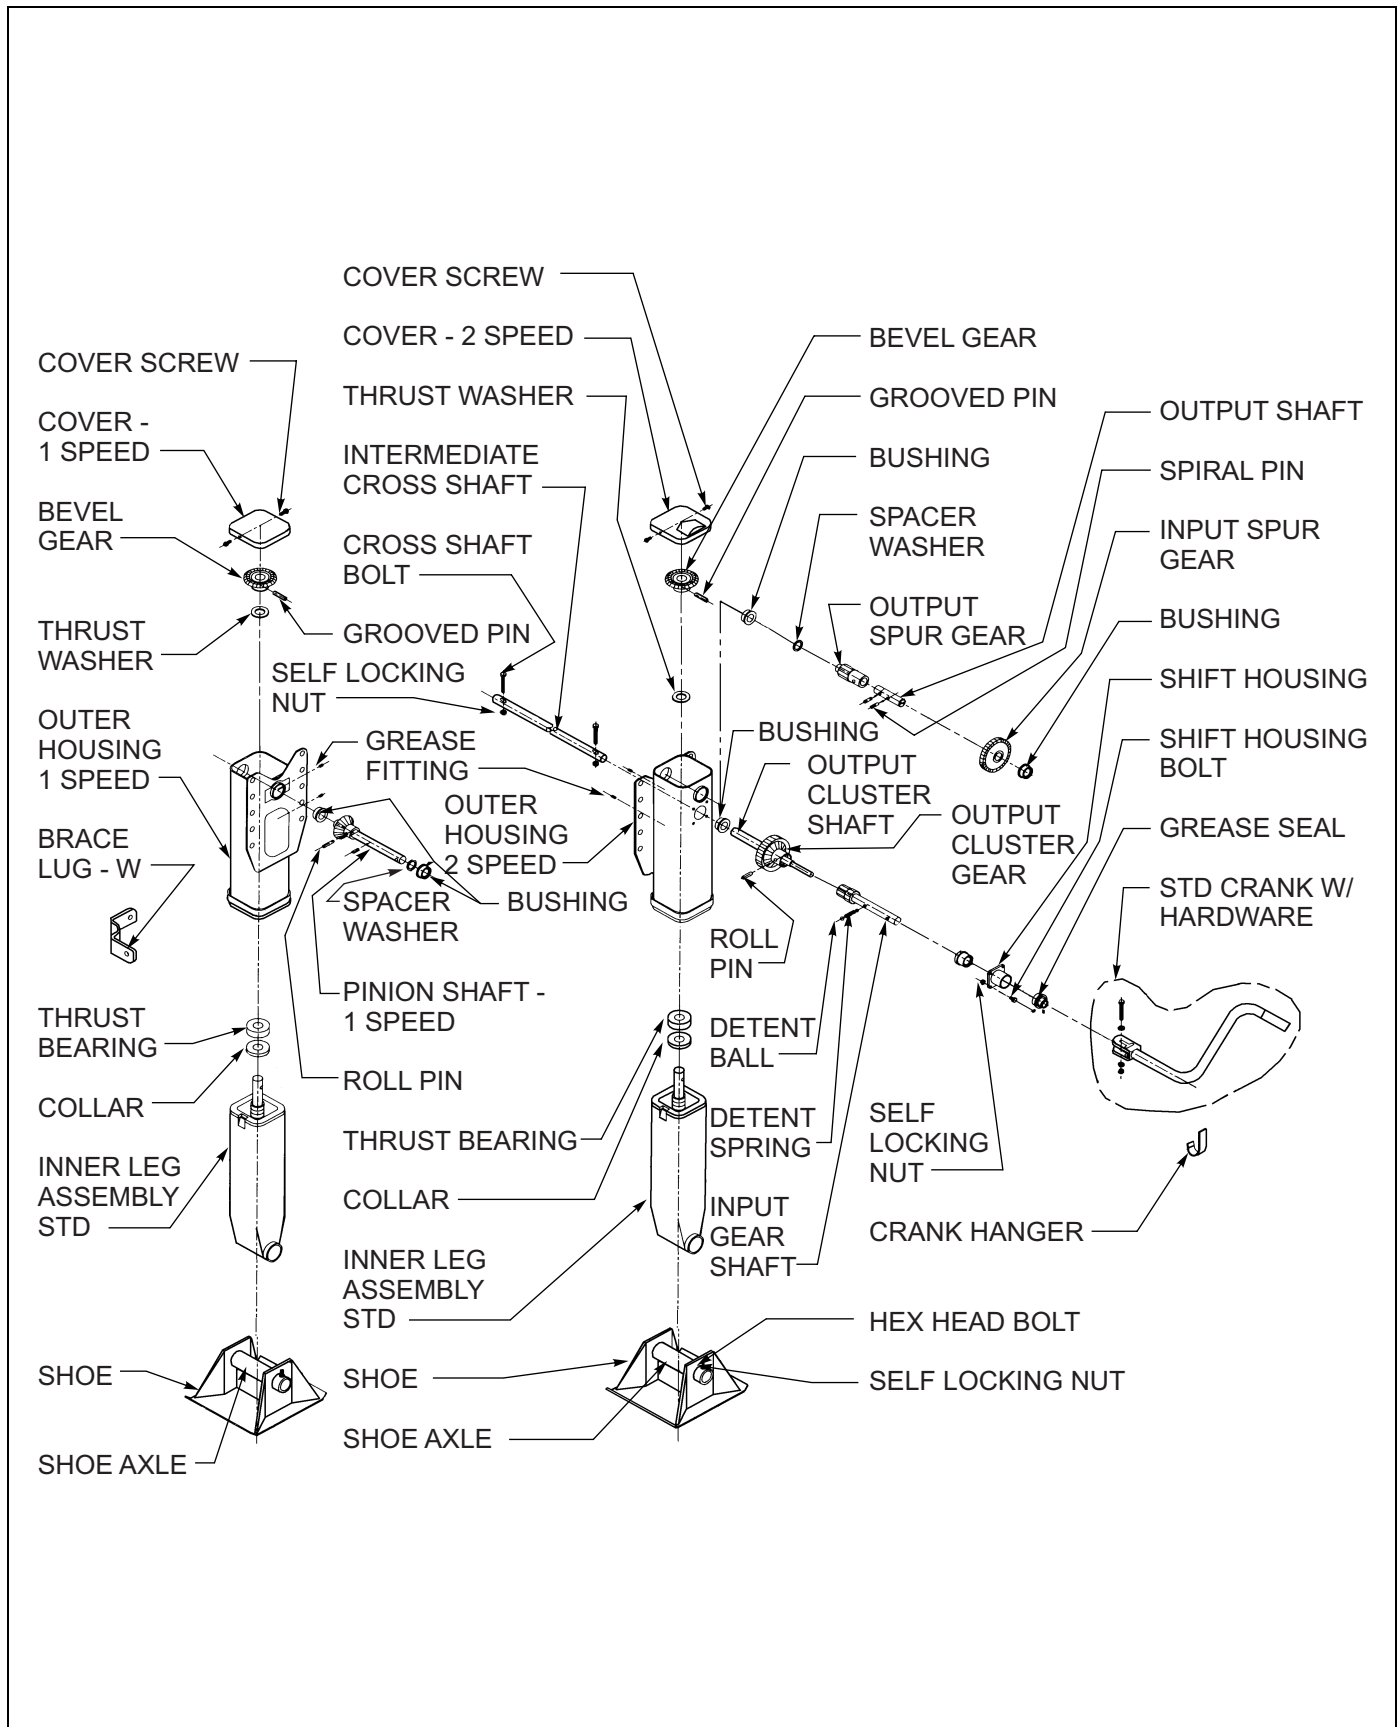

Figure 4-21: Crank Landing Gear Assembly
2. The elevating screw is lubricated by the lower grease fitting located on the upper housing (**See Figure 4-21**) prior to lubrication, extend the landing gear as far as possible. During lubrication, slowly retract the landing gear. The upper grease fitting lubricates the gearing, shafts, and bushings. It is recommended to use a high quality commercial grade lithium EP-2 grease.